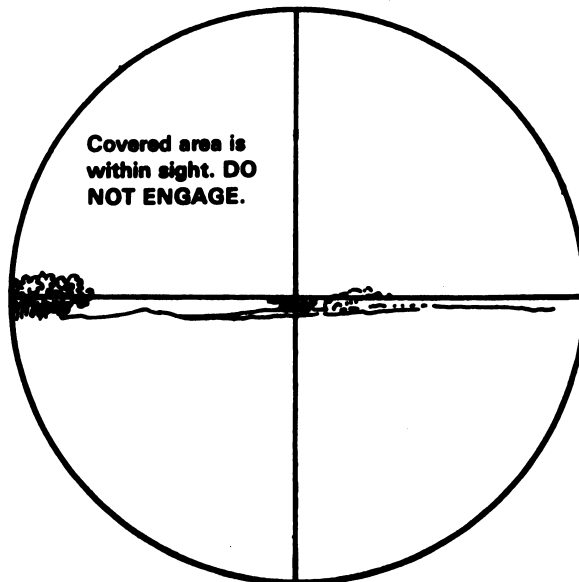

Figure 1
a. You can use the daysight tracker to determine if you have enough time to engage a moving target (fig. 1).